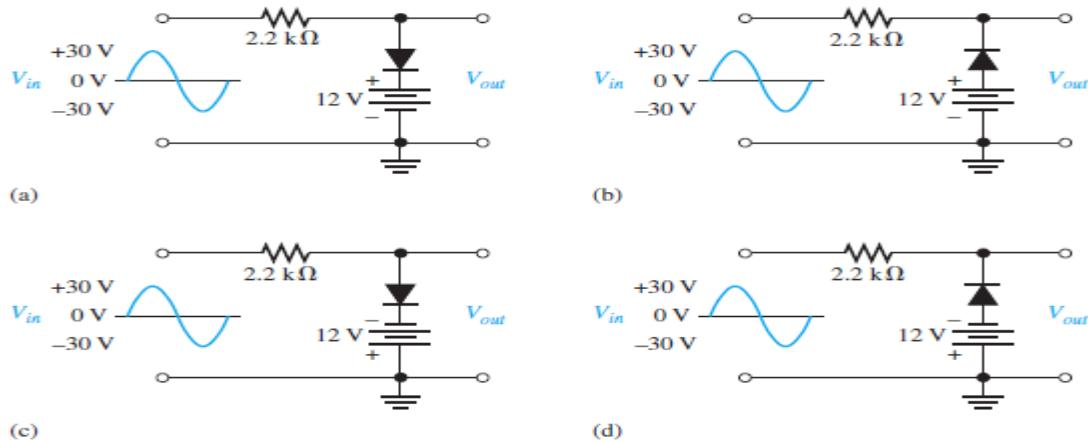

Figure 2–97
39. Describe the output waveform of each circuit in Figure 2–98. Assume the RC time constant is much greater than the period of the input.